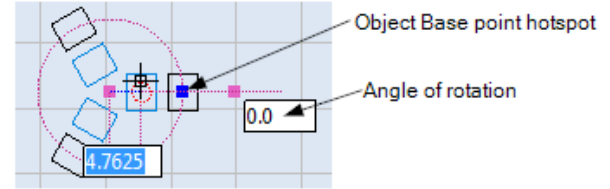

FIGURE 483: THE POLAR ARRAY BEFORE AND DURING THE CHANGING OF THE RADIUS
- Select the Polar Array and left-click its Object Base point hotspot. As shown in Figure 483 (below) the Object Base point hotspot will turn blue.
- Note:** Dragging the Object Base point hotspot may change the angle of rotation, as well as the radius, of the Polar Array. You can reset the angle of rotation of the Polar Array by typing a new value in the **Angle of rotation** field, which is shown in Figure 483 (below).